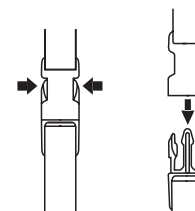

Fig. 4C
1. Press both sides of the release button with one hand and pull the straps apart. The machine can be released quickly from the operator in the event of an emergency (e.g., sparks, smoking, or vibrating abnormally). (Fig.4C)